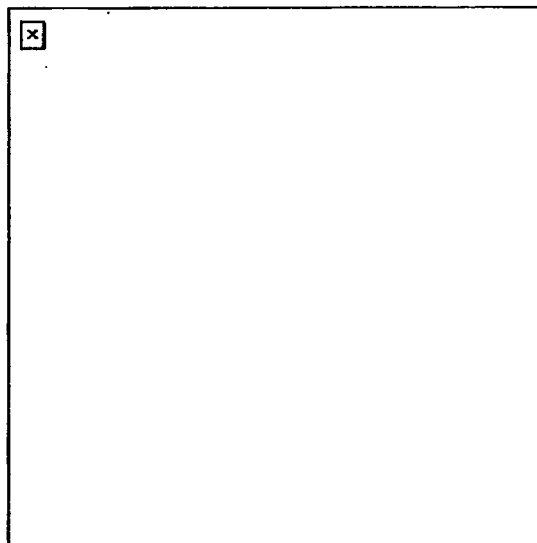

Figure 3. Fist grip.
- b. Unsupported grips. You may use any of three nonfiring hand grips to support your firing hand (Figures 3, 4, and 5).
- (1) Fist grip (Figure 3). Begin by gripping the weapon as previously described (Task Step 3). Firmly close the fingers of your nonfiring hand over the fingers of your firing hand. Make sure the index finger of your nonfiring hand is between the middle finger of your firing hand and the guard. Place your nonfiring thumb beside your firing thumb.